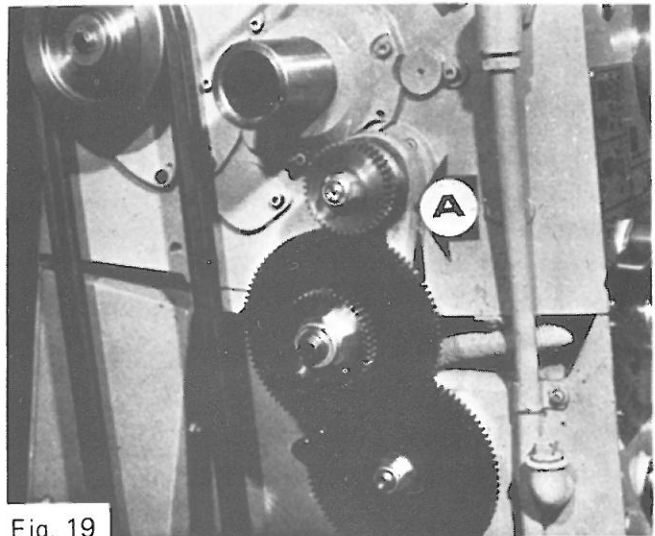

Fig. 19
Drive from headstock to gearbox is transmitted through a gear train enclosed by the headstock end-guard. Intermediate gears are carried on the adjustable swing-frame (A) shown in Fig. 19.